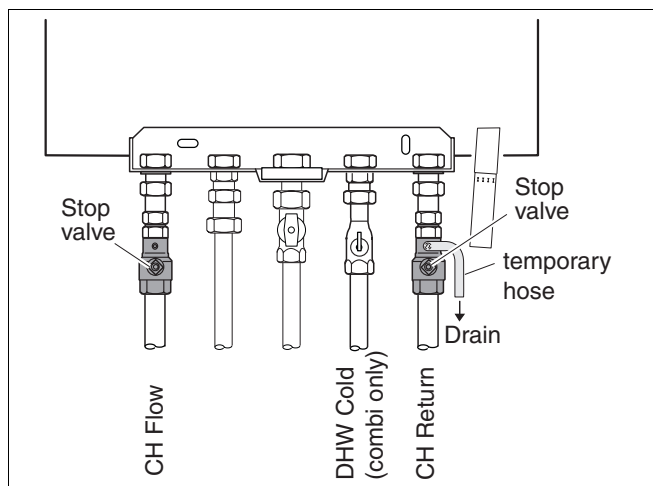

Fig. 30 Draining the system
- Connect temporary hose (fig. 30).